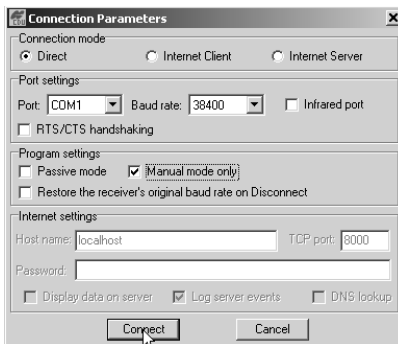

Figure 2-35. Connection Parameters – Manual Mode Only
- On the Connection Parameters screen, select a baud rate of 38400 and enable the Manual mode only check box (Figure 2-35), then click **Connect**.